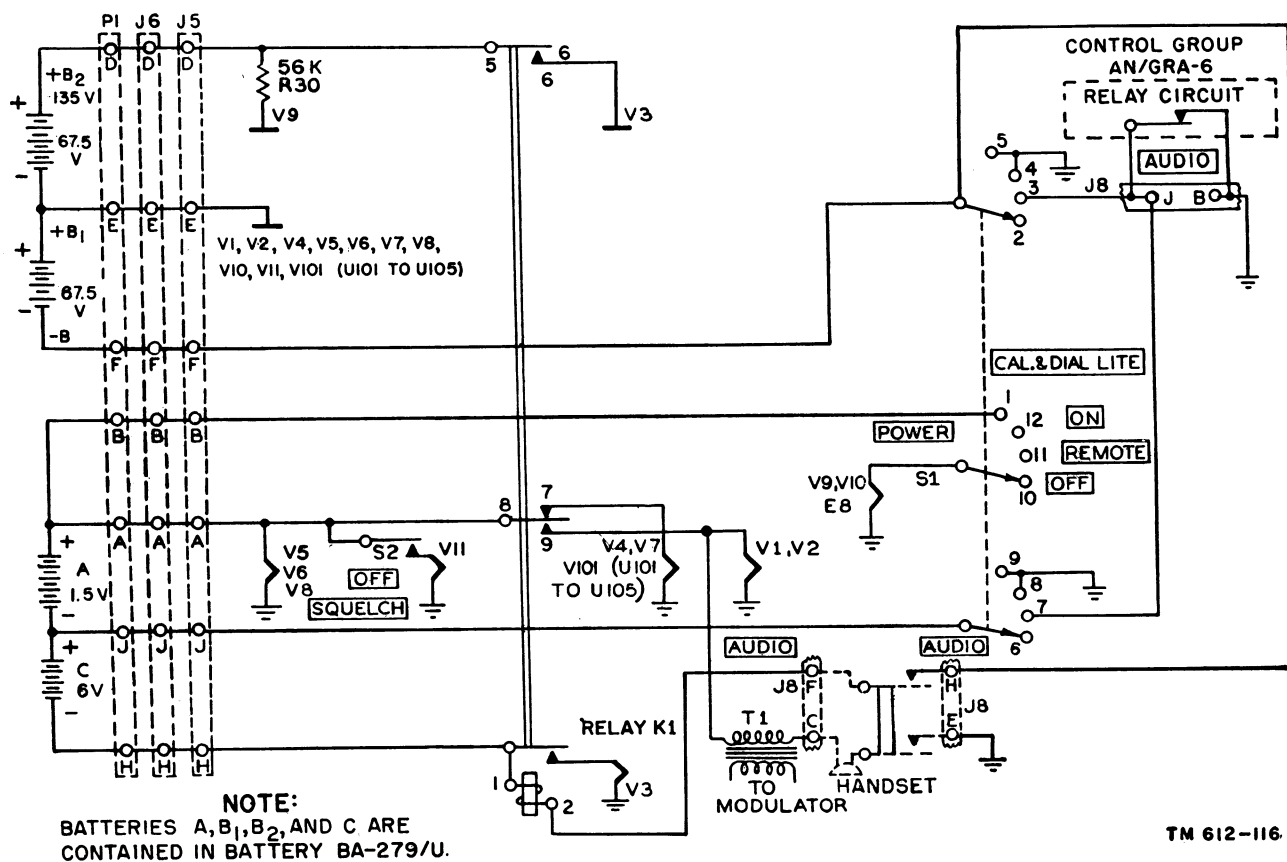

Figure 22. Control circuit diagram.
- (1) Cable improperly plugged into power source.
- (2) Faulty power source.
- (3) Worn, broken, or disconnected cords and plugs.
- (4) Relay contacts burned because of overloads.
- (5) Wires or solder joints broken because of excessive vibration.
- (6) Defective tubes.
- (7) Inactive (cracked or broken) crystals.
a. GENERAL. System sectionalization consists of determining whether the trouble is in the transmitter, receiver, antenna, or power source. The control circuit diagram (fig. 22) will assist in sectionalizing the trouble. This diagram is described in detail in paragraph 39.
- (1) Operate the radio set over its entire tuning range and observe its performance. See the equipment performance checklist (par. 37) for normal test indications, using a similar radio set which is known to be good.
- (2) If the entire radio set is dead, the trouble is probably in the power source or in the leads to the set. Replace the faulty battery or check the leads, as necessary. If Amplifier Power Supply AM-598/U is being used, check it as indicated in paragraph 43. Check the handset and replace it if necessary.
- (3) If only the transmitter or receiver is dead, the trouble is in that component and is probably a tube or a relay. If the simple remedies indicated in *b* and *c* below do not correct the trouble, higher echelon maintenance will be required.
(fig. 22)